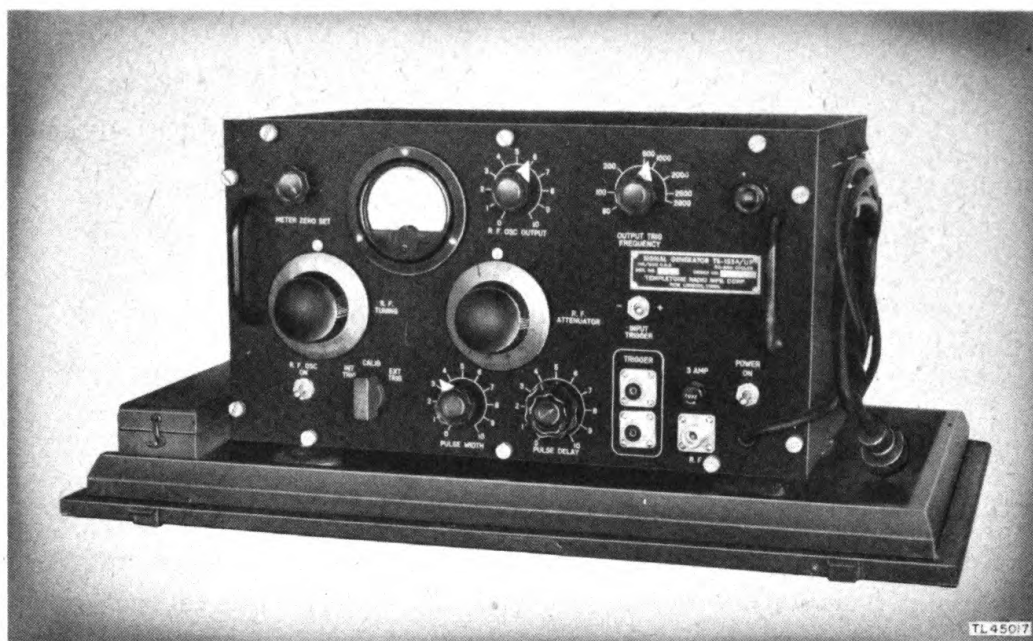

Figure 6. Signal Generator TS-155A/UP.
8. SIGNAL GENERATOR TS-155A/UP (fig. 6).